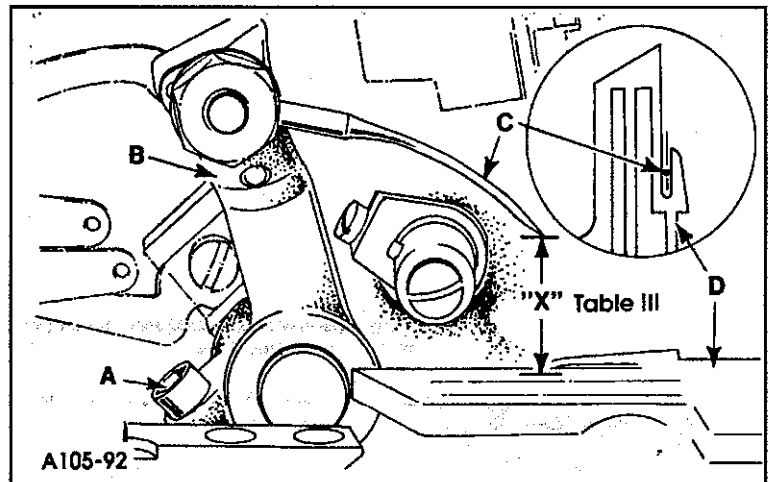

Fig. 6
The needle must be centered from right to left in the needle slot of the throat plate. If adjustment is necessary, loosen screw (A, Fig. 6) and reposition needle driving arm (B) right or left to center needle (C) in
Turn the handwheel in operating direction until needle driving arm (B, Fig. 6) is at its highest position. At this time, the distance from the tip of needle (C) to the surface of throat plate (D) should be within the "X" dimension listed on Table III.
If adjustment is necessary, loosen screw (A, Fig. 6) and move arm (B) forward or rearward as required being careful not to disturb the right to left needle alignment. Tighten screw (A).